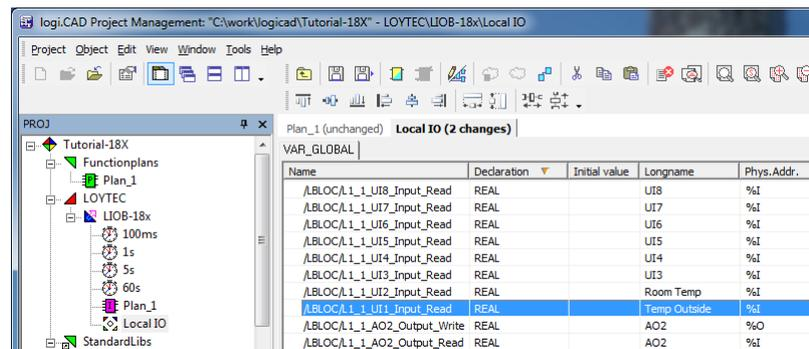

Figure 14: Exposed PLC data points appear in LogiCAD
10. The data points now appear as variables in LogiCAD in a folder under the device folder. The folder is named specific to the technology of the data points, e.g. 'Local IO' for all local I/Os that are exposed as a PLC variable. An example is shown in Figure 14.